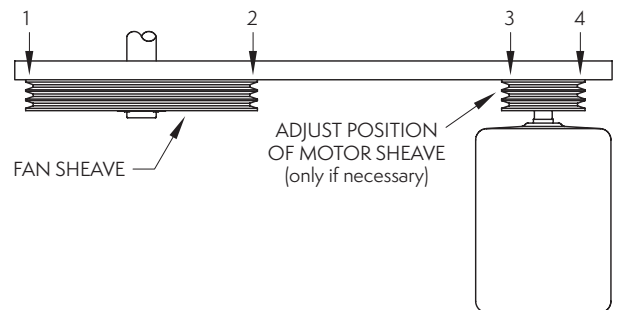

Figure 19 – Sheave Alignment Check
9. As a final check, lay a straight edge from sheave to sheave as shown below in Figure 19. There should be four-point contact. Adjust the position of the motor sheave as necessary until four-point contact is achieved.